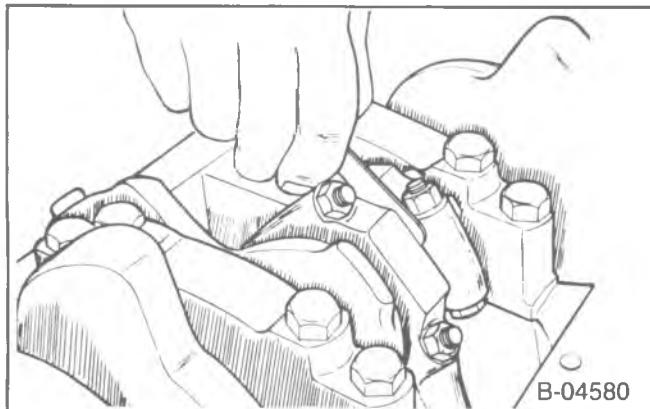

Figure 66—Measuring Connecting Rod Side Clearance
- Measure (Figure 66)**
- Connecting rod side clearance. Use a feeler gage between the connecting rods (figure 66). The proper clearance is as follows: